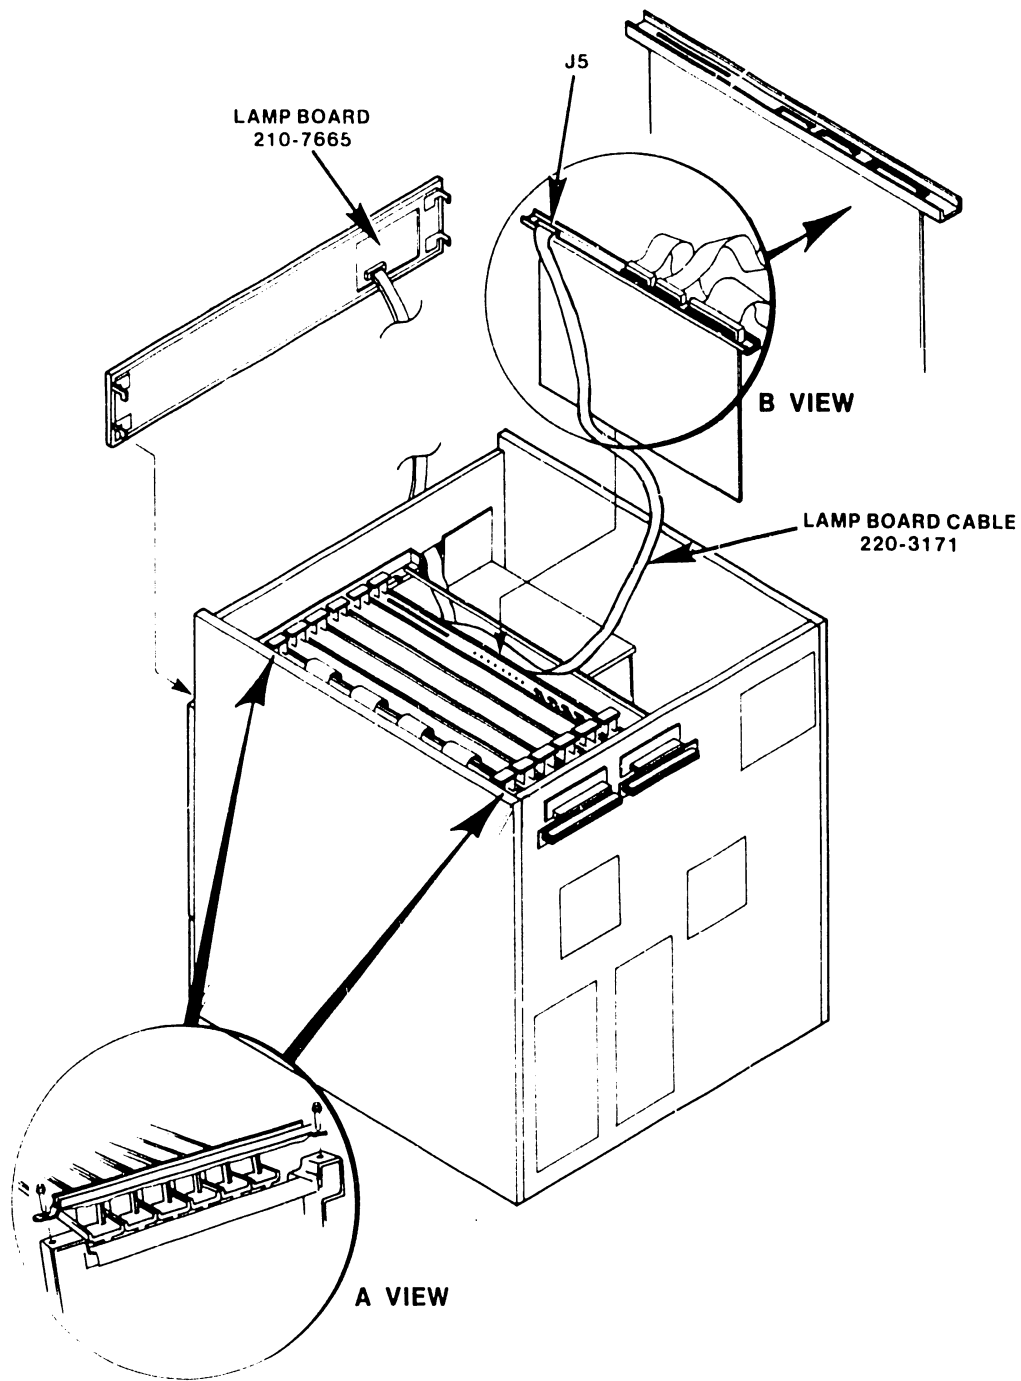

Figure 4-6 TC Controller Installation (140/145 Masters)
5. Route the edge connector end of the lamp board cable(s) through the slot in the side of the U-Chassis (see Figure 4-6). Position the cable for connection to the TC controller as described later in this manual.
1. As shown in Figure 4-6 (A view), loosen the two board retainers screws.
2. Install the TC controller(s) into the I/O slot(s) furthest to the right, when viewing the unit from the back (see Figure 4-6). The board connectors on the motherboard have card guides to ease insertion, and card keys to center the boards.
5. Plug the edge connector end of the TC Lamp Panel Cable (P/N 220-3171) into connector J5 on the TC controller mounting bracket (see Figure 4-6, B View).